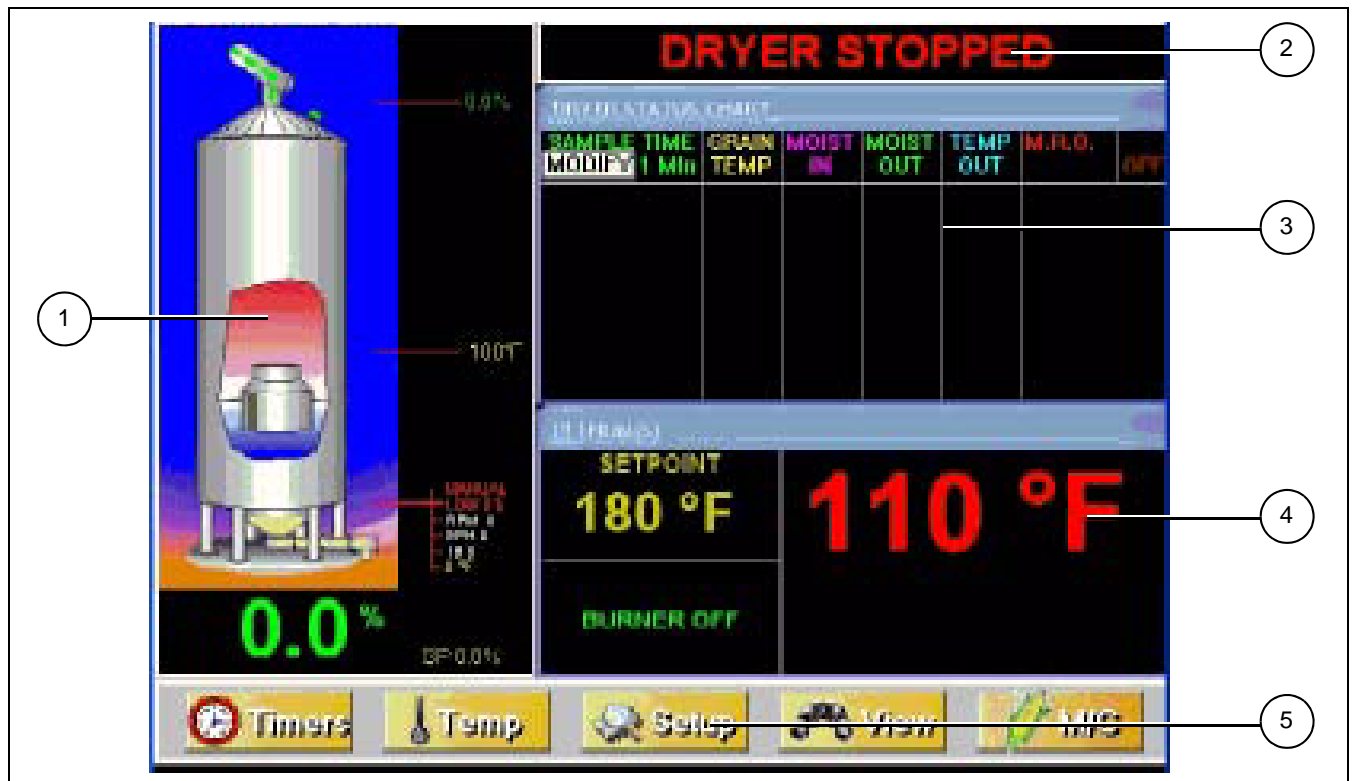

Figure 6B
1. **Table view:** Default operation screen view. (See Figure 6B on Page 25.)
6. Press  then  to return to the operation screen. (See Figure 6B on Page 25.)
4. Press  then  to return to the operation screen. (See Figure 6B on Page 25.)